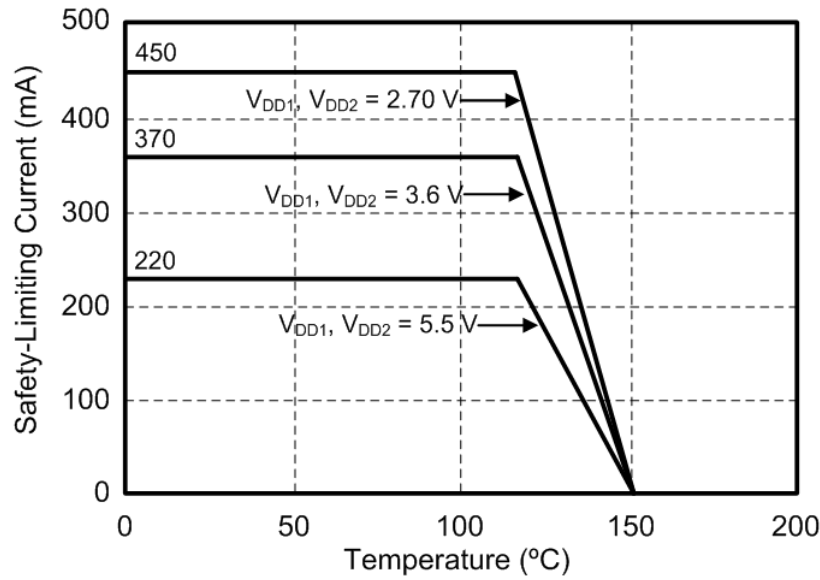
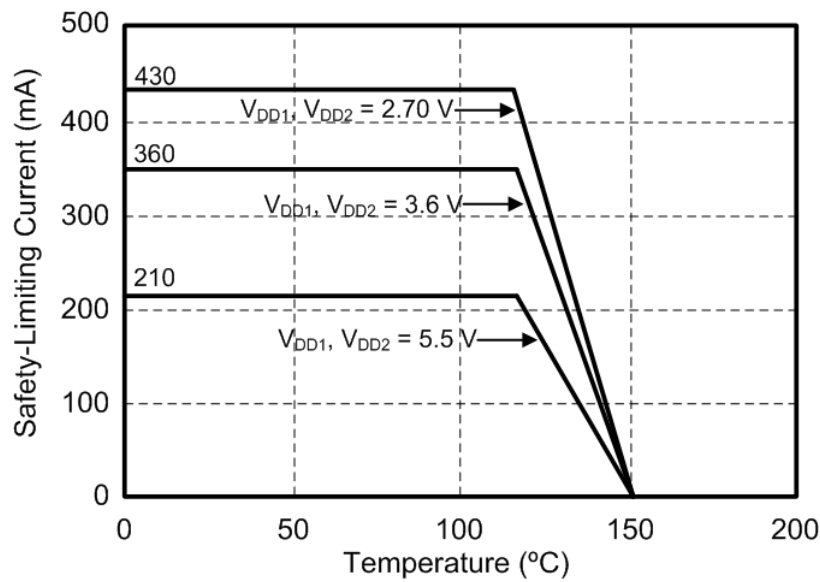

Figure 4.4. (WB SOIC-16) Thermal Derating Curve, Dependence of Safety Limiting Values with Case Temperature per VDE 0884-10
Figure 4.5. (NB SOIC-16, QSOP-16) Thermal Derating Curve, Dependence of Safety Limiting Values with Case Temperature per VDE 0884-10
1. Maximum value allowed in the event of a failure; also see the thermal derating curve in [Figure 4.4 \(WB SOIC-16\) Thermal Derating Curve, Dependence of Safety Limiting Values with Case Temperature per VDE 0884-10 on page 25](#) and [Figure 4.5 \(NB SOIC-16, QSOP-16\) Thermal Derating Curve, Dependence of Safety Limiting Values with Case Temperature per VDE 0884-10 on page 25](#).